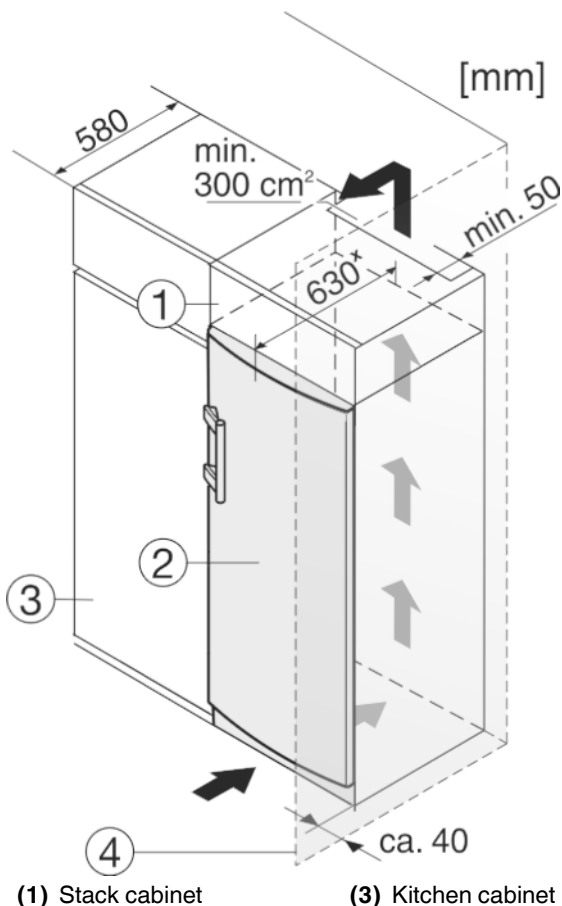

Fig. 9
(2) Appliance
(4) Wall
The appliance can be built into kitchen units. A top cupboard *Fig. 9 (2)* can be added above the appliance in order to bring the appliance *Fig. 9 (1)* up to the height of the fitted kitchen units.
When installing with kitchen units (max. depth 580 mm), the appliance can be positioned directly next to the kitchen cabinet *Fig. 9 (3)*. The appliance will project by 34 mm* at the sides and 50 mm* in the centre of the appliance in relation to the kitchen cabinet front.
If the appliance is installed with the hinges next to a wall *Fig. 9 (4)*, the distance between appliance and wall has to be at least 40 mm. This corresponds to the projection of the handle when the door is open.